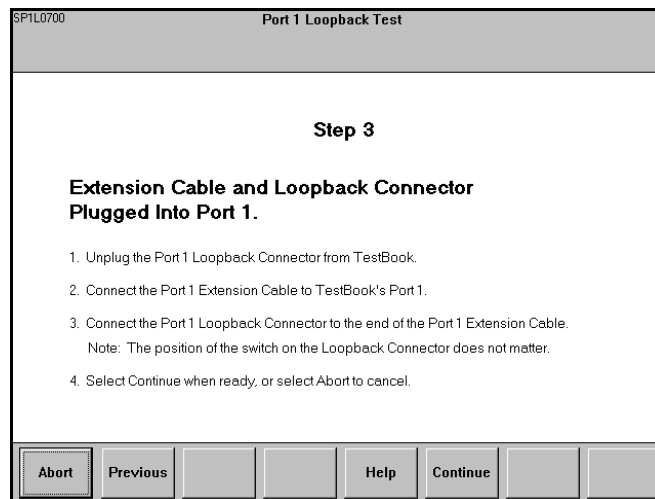

Figure 9
1. The following screen (Figure 9) describes Step 3. Here the operator must: